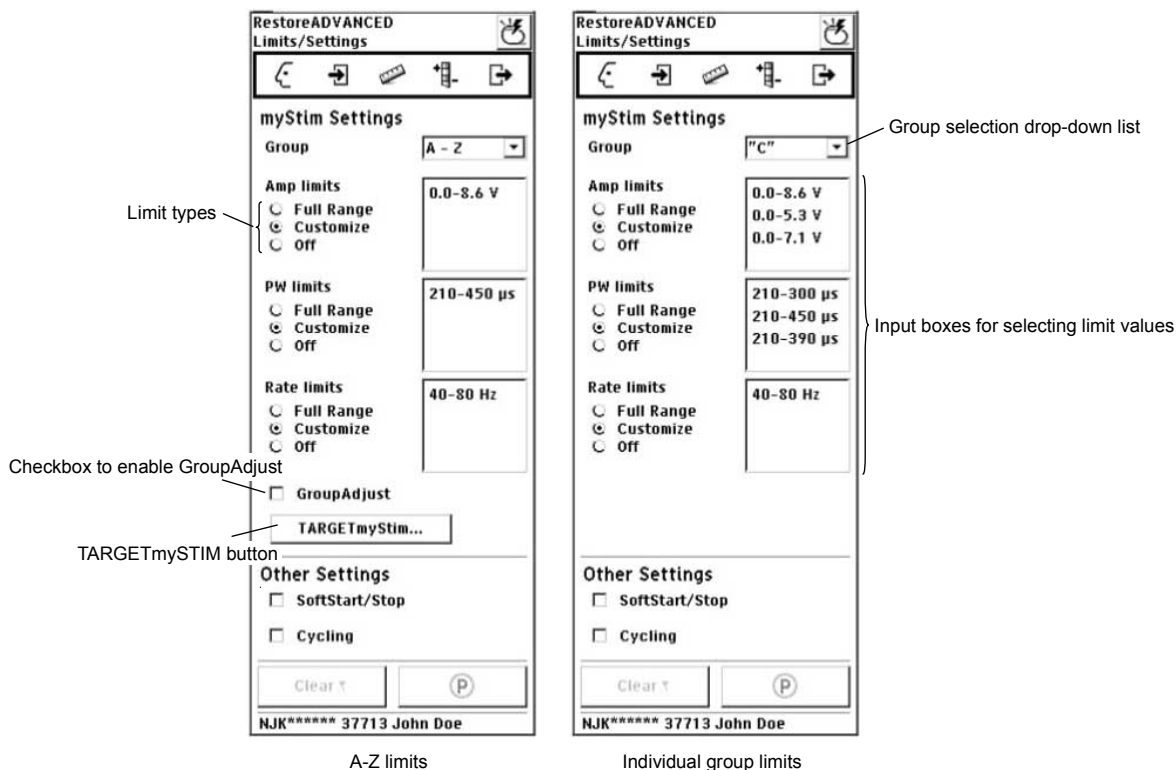
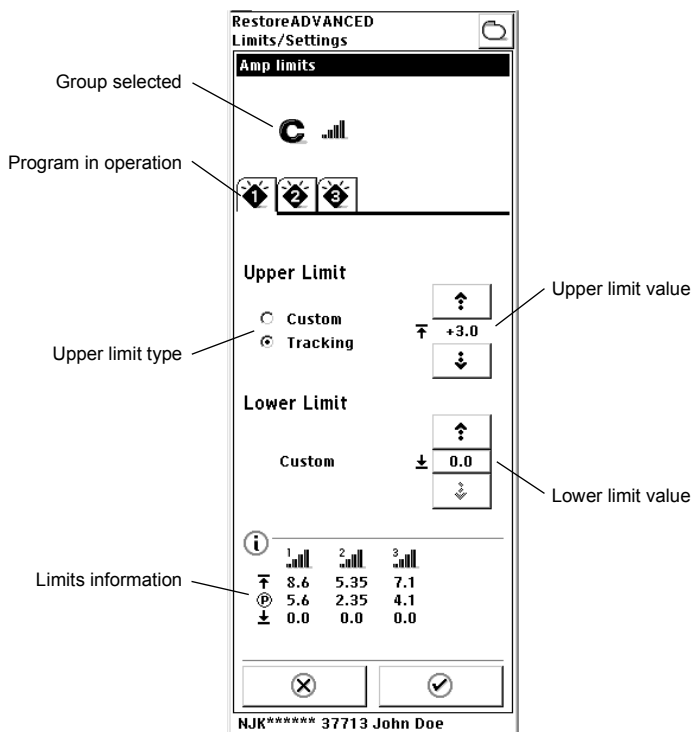

Figure 39. Programming patient control limits.
Figure 41. Programming individual program limits.
1. Access the PROGRAM mySTIM menu () and select Limits/Settings. The LIMITS/SETTINGS screen is displayed (Figure 39 on page 69).
2. Select A-Z from the GROUP SELECTION drop-down list (Figure 39 on page 69).
2. Select a group from the group selection drop-down list (Figure 39 on page 69).
3. Select the appropriate radio button for amplitude limits or pulse width limits (Figure 39 on page 69).
- a. Select an entry from the amplitude limits input box or the pulse width limits input box (Figure 39 on page 69). The AMP LIMITS screen or the PW LIMITS screen appears (Figure 41).
- b. Select values for the upper limit (tracking or custom) and lower custom limit (amplitude lower limit should be set to 0.0 V) (Figure 41).
3. Select the appropriate radio button for rate limits (Figure 39).
3. Select the checkbox next to GroupAdjust (Figure 39 on page 69) to enable the feature (if it is not active).
3. Select the TARGETmySTIM button (Figure 39 on page 69).